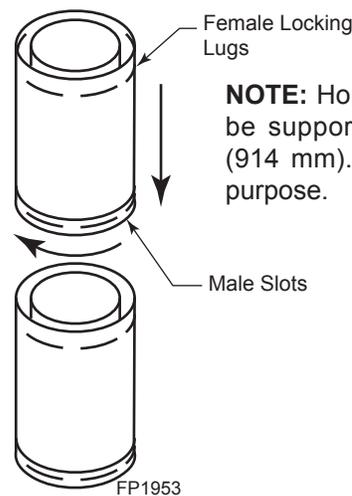

Figure 19 - Rigid Vent Pipe Connections
Twist-lock Procedure: The female ends of the pipes and fittings have three locking lugs (indentations). These lugs will slide straight into matching slots on the male end of adjacent pipes and fittings. Push the pipe sections together and twist one section clockwise approximately one-quarter turn until the sections are fully locked. *Figure 19*
2. Assemble the desired lengths of pipe and elbows necessary to reach from the burner system flue up through the firestop. Be sure pipe and elbow connections are fully twist-locked. Page 18, Figure 19